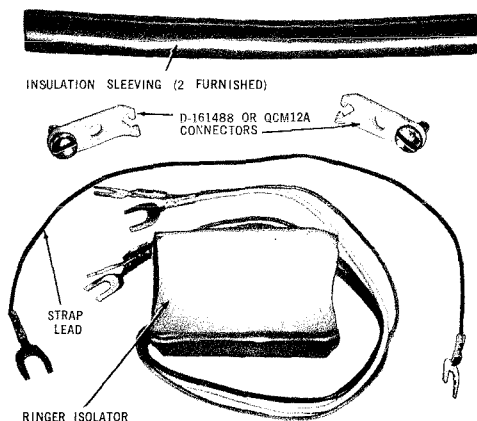

Fig. 1 — PO895087 Kit, Ringer Isolator—Components
2.01 The ringer isolator must be ordered as a PO895087 Kit, Ringer Isolator which consists of the components shown in Fig. 1.
2.02 The ringer isolator (Fig. 1) consists of a two-transistor switching circuit mounted on a printed circuit board and encased in a vinyl insulating sleeve. The ringer isolator schematic is shown in Fig. 2. For connections refer to section 500-112-100.